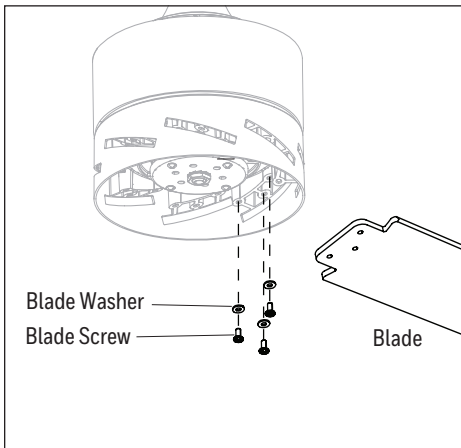

Figure 5.4
4. Insert blade through slot in the side of the motor assembly. Align the holes of one blade with three blade screw holes in underside of the motor assembly. Secure with the three blade screws and blade washers. Repeat this step for the remaining blades (Figure 5.4).